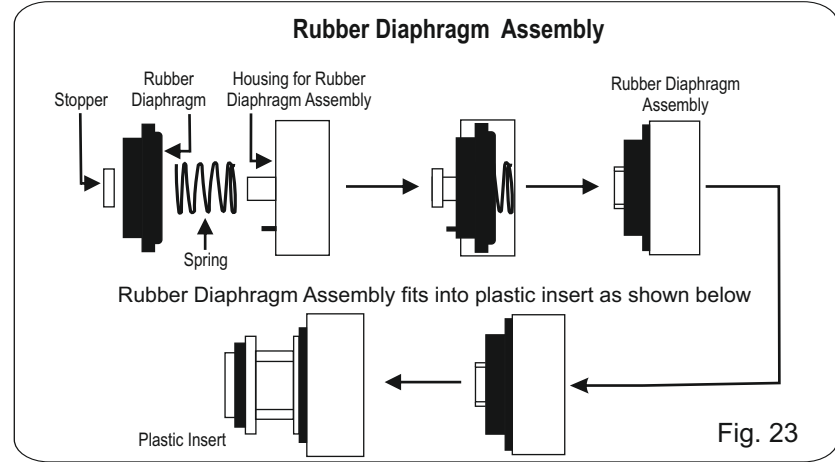

Fig. 23
6. Press the rubber diaphragm and remove the stopper of the assembly by pulling it in upward direction (Refer Fig. 23). Remove the rubber diaphragm and spring.